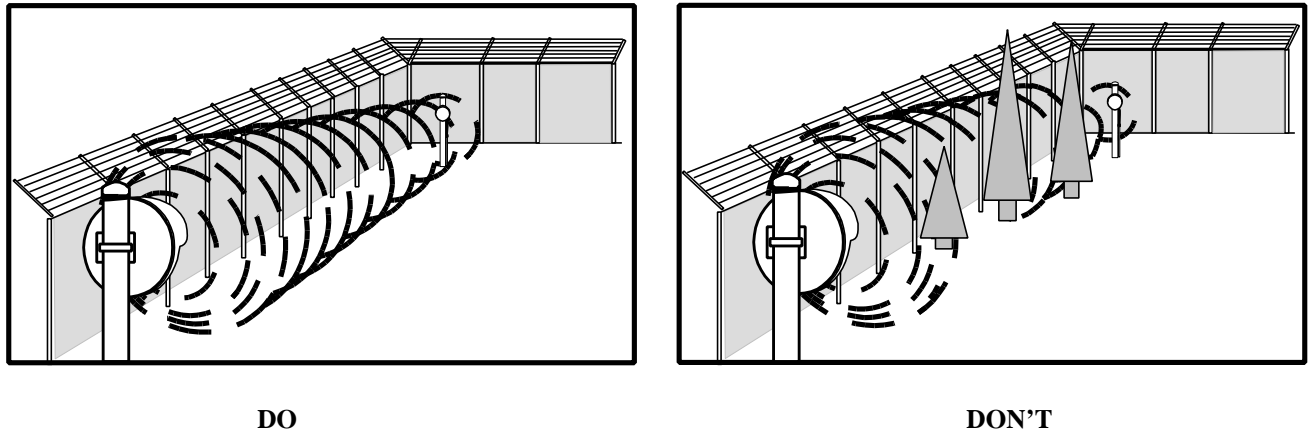

Figure 9
1. Required Area. Model 300B must be located in an area that is free of obstructions and moving objects such as chain link fences, trees, bushes and large areas of water. See Figure 9. Large moving objects within the protection pattern will be indistinguishable from an intruder and will cause nuisance alarms.